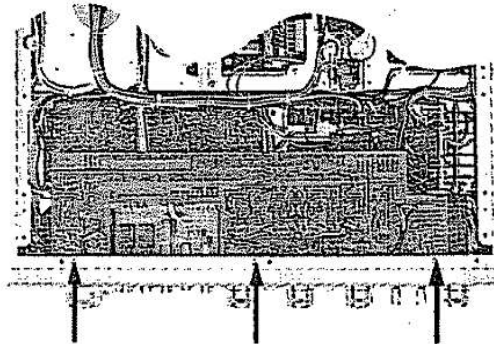

Figure C3
- c) Remove three screws from bottom of Front Panel. (Figure C3)